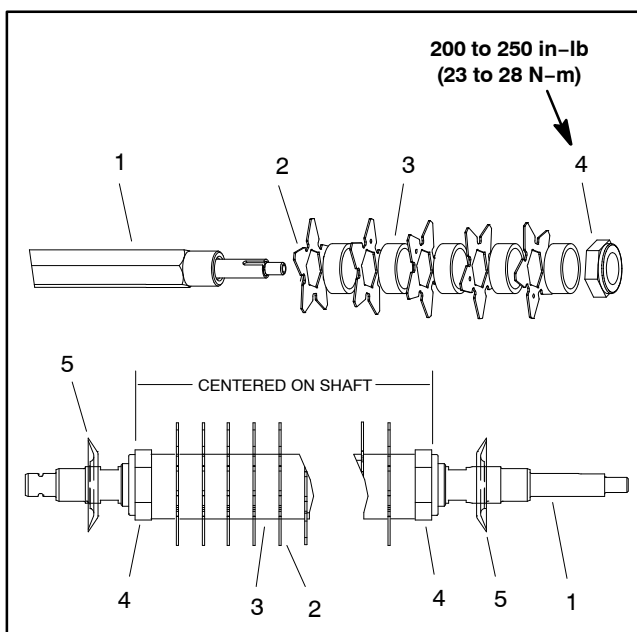

Figure 13
### Disassembly (Fig. 13)
5. Remove lock nut from either end of the shaft (Fig. 13).
### Assembly (Fig. 13)